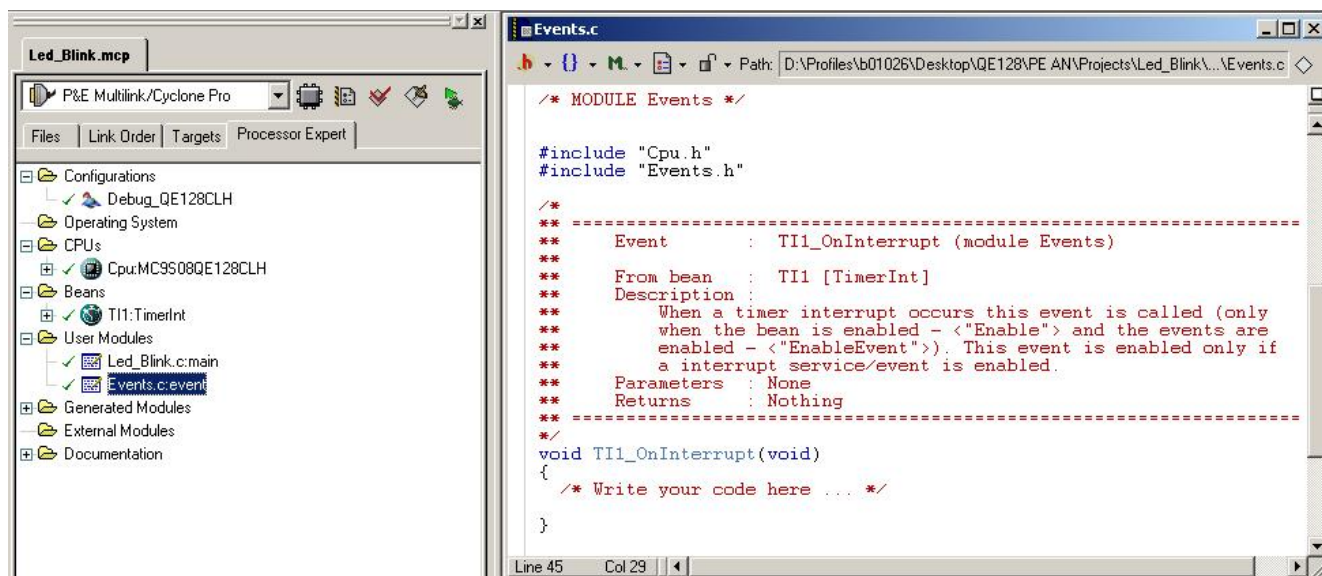

Figure 17. Events.c File for TimerInt Bean
- Compile the project pressing the F7 key. Once an event is enabled, a file named Events.c is generated by the Processor Expert. This file contains all the events enabled for all the beans in the project. This file is under the User Modules folder in the left panel (Figure 17). The event OnInterrupt in the file Events.c is named TI1_OnInterrupt. The code to be executed must be placed inside the TI1_OnInterrupt function.
3. Once the TimerInt bean is inserted to the project, it appears on the left panel in the Processor Expert tab, in the Beans folder (Figure 17).